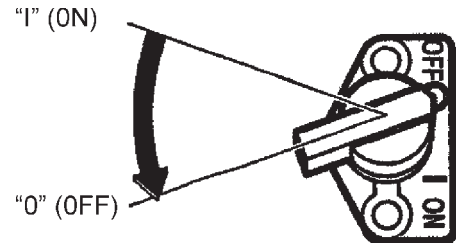

Figure 16. Engine ON/OFF Switch (OFF)
- After the engine **cools**, turn the **engine ON/OFF switch** to the **OFF** position (Figure 16).